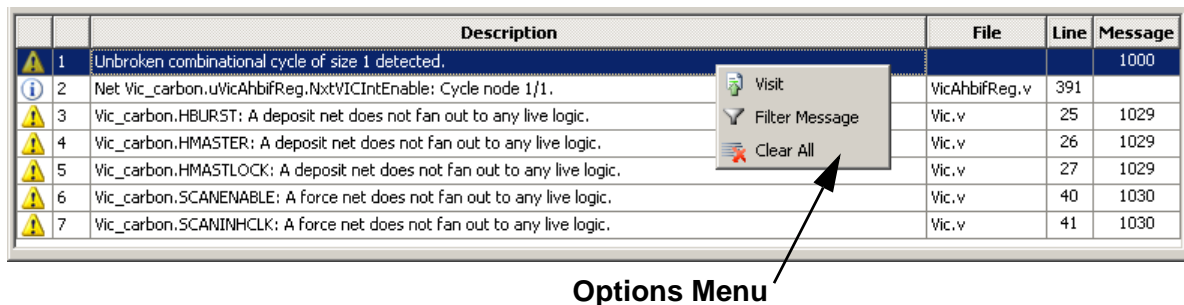

Figure 2-38 Error List Context Menu
3. Right-click any item to display the Error List Options menu (Figure 2-38).